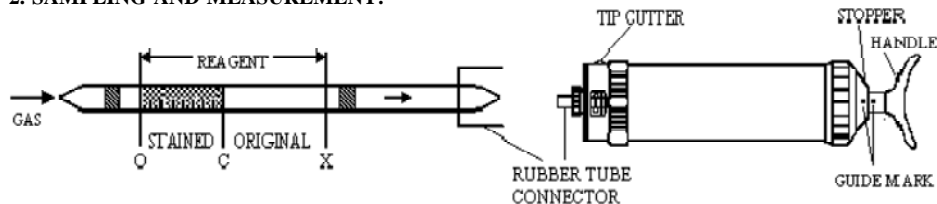

Fig.1
- ① Break both ends of detector tube.
- ② And insert the tube end with red dot sealed on the detector tube into the rubber tube connector as shown in Fig. 1.
- ③ Align the guide marks (red dots) on the shaft and stopper of the pump. Pull the handle at a full stroke and wait for 5 minutes.
- ④ Remove the detector tube from the pump inlet on the completion of sampling. Position boundaries between the reagent and glass grain on the line "O" and "X" of CONCENTRATION CHART and read the concentration with the top "C" of length of stain.